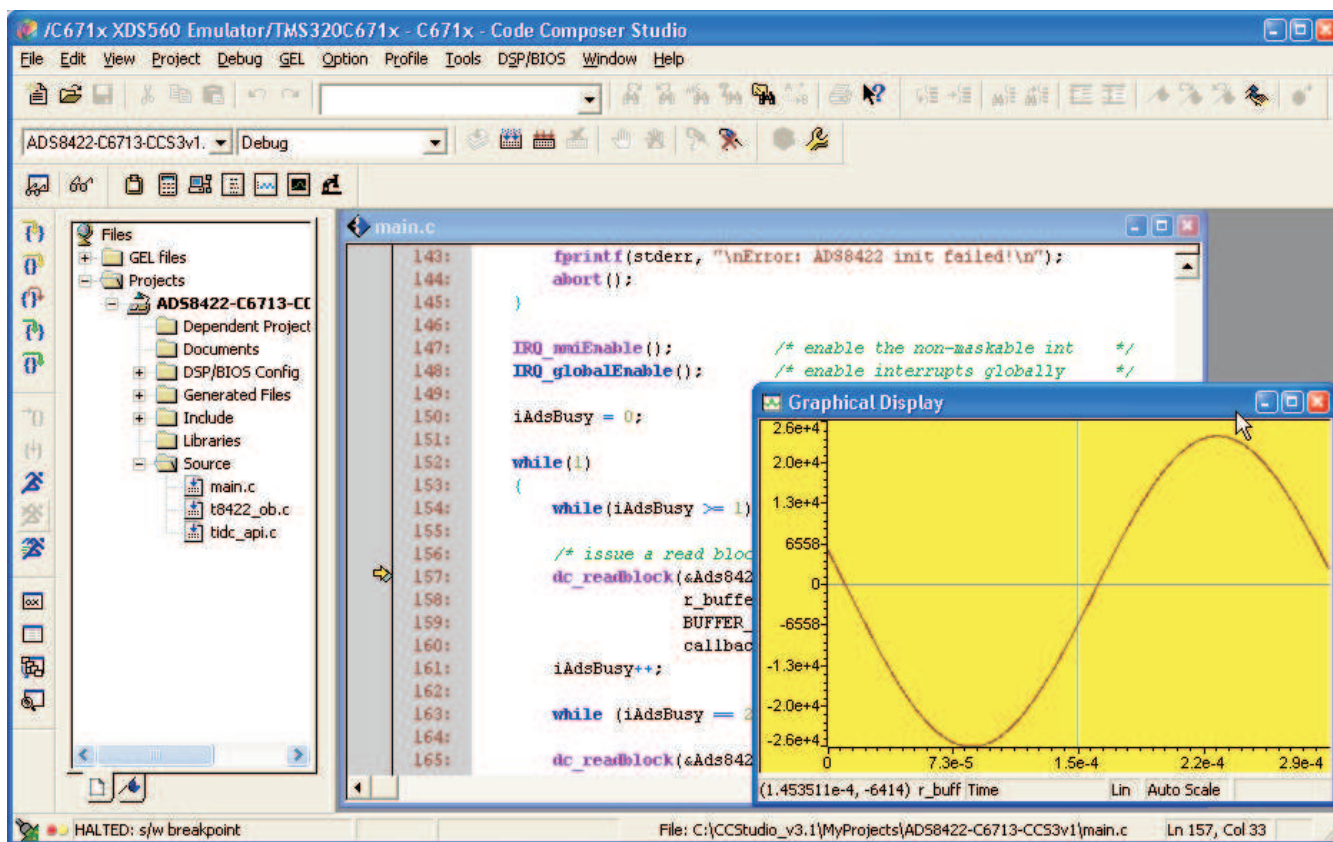

Figure 10. CCS Window With Graph
- Start the program by pressing the <F5> key on your keyboard. After a short time, the graph window is updated and shows the waveform of the analog signal (see Figure 10).